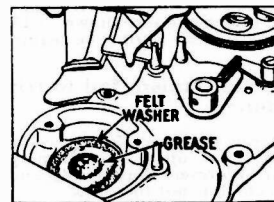

Fig. 12
- f. Examine the felt washer (shown in Fig. 12) to determine that it is properly packed.